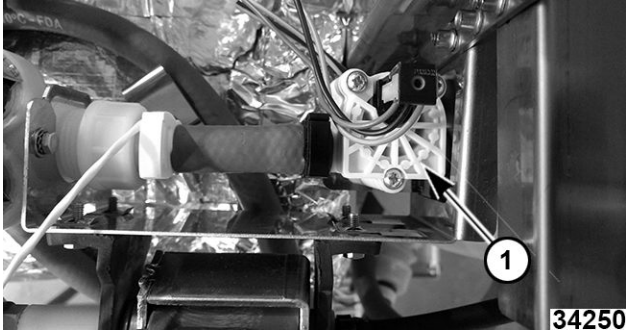

Fig. 52
5. Remove flow meter (1, Fig. 52) from bracket.